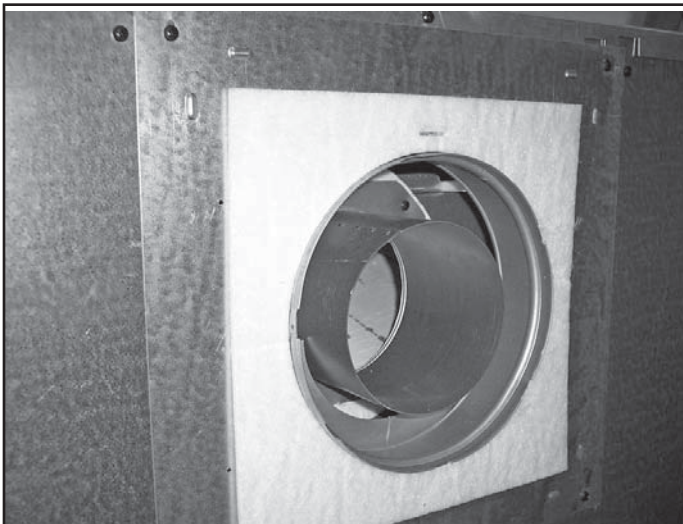

Figure 9.13 Place Insulation over the Cover Plate
- Place the white insulation with the slot around the outer collar. See Figure 9.13.